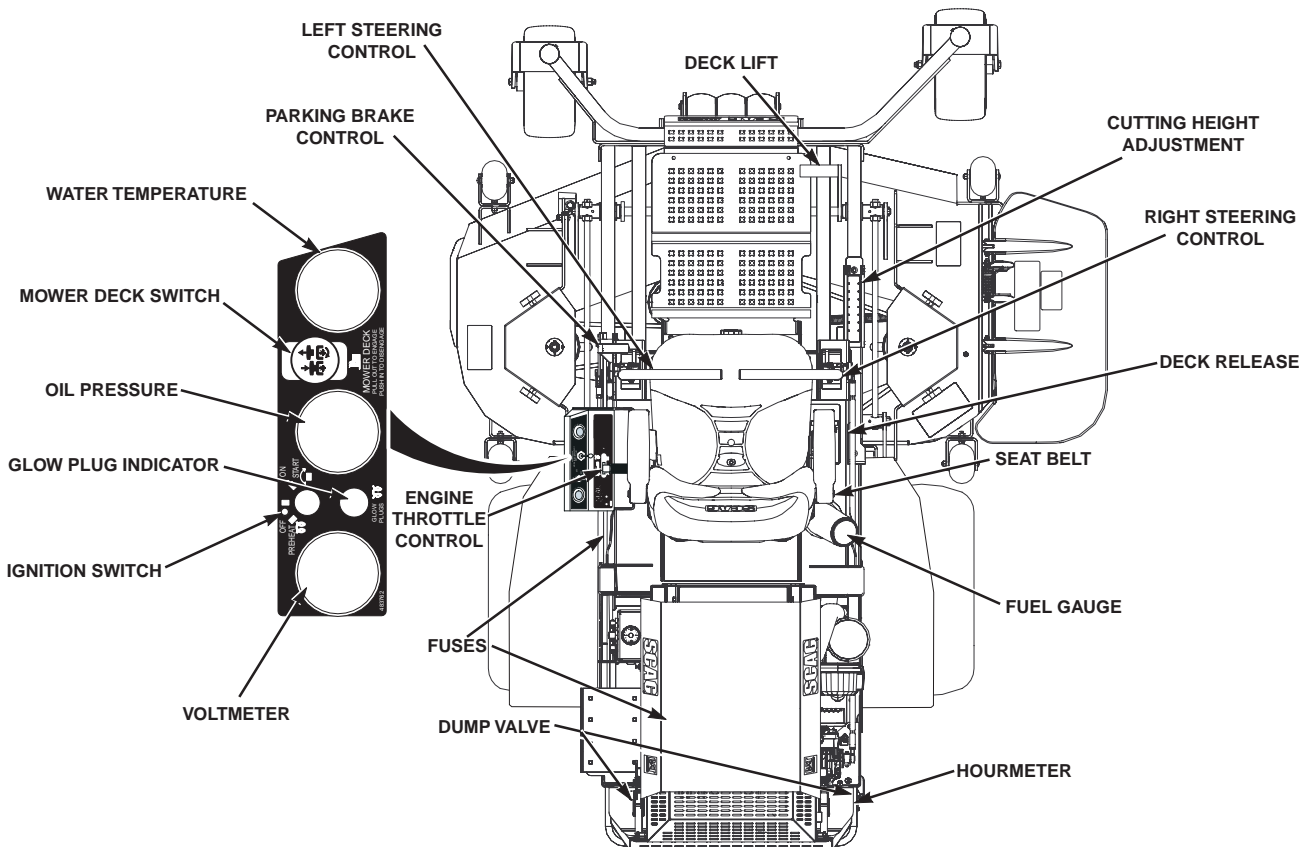

Figure 4-1. Controls and Instruments
1. **Ignition Switch (Figure 4-1).** The ignition switch is used to start the engine and has four positions; PREHEAT, OFF, ON, and START.
2. **Mower Deck Switch (Figure 4-1).** Used to engage and disengage the mower drive system. Pulling up on the switch will engage the deck drive. Pushing down on the switch will disengage the deck drive.
3. **Glow Plug Indicator (Figure 4-1).** Yellow indicator turns on when the key switch is turned to the PREHEAT position. Glow plugs must be preheated for 5 to 10 seconds before starting the engine.
4. **Engine Throttle Control (Figure 4-1).** Used to control the engine speed. Pushing the lever forward increases engine speed. Pulling the lever back decreases engine speed. Full back position is the IDLE position. Full forward is the cutting position.
5. **Voltmeter (Figure 4-1).** Indicates the condition of the charging system. When the engine is running, in normal operating conditions, the needle should be in the 12 to 14 volt range.
6. **Oil Pressure (Figure 4-1).** Indicates engine oil pressure. Reference the engine operator's manual for further information.
7. **Hour meter (Figure 4-1).** Indicates the number of hours the engine has been operated. It operates whenever the engine is running. Has preset maintenance reminders for engine and hydraulic system oil changes. Will start flashing scheduled maintenance 2 hours before preset time and continue flashing until 2 hours after. Automatically resets.
8. **Fuse Holders (Figure 4-1).** There are one 20-amp fuse and one 50-amp resettable fuse that protect the mower's electrical system. To replace fuse, pull fuse out of the socket and install a new fuse.
9. **Left Steering Control (Figure 4-1).** Used to control the mower's left wheel when traveling forward or reverse.
10. **Right Steering Control (Figure 4-1).** Used to control the mower's right wheel when traveling forward or reverse.
11. **Parking Brake Control (Figure 4-1).** Used to engage and disengage the parking brakes. Pull the lever back to engage the parking brakes. Push the lever forward to disengage the parking brakes.
12. **Fuel Tank Gauge (Figure 4-1).** Indicates the amount of fuel in the fuel tank.
14. **Deck Lift Foot Lever (Figure 4-1).** Used to raise and lower the cutter deck.
15. **Cutting Height Adjustment (Figure 4-1).** Used to set the cutter deck at the desired cutting height.
16. **Deck Release Lever (Figure 4-1).** Used to lock the cutter deck in the transport position. Push the foot pedal forward and lift up on the release lever to release the cutter deck for normal mowing.
17. **Temperature Gauge (Figure 4-1).** Indicates the operating temperature of the engine.
18. **Seat Belt (Figure 4-1).** Used to secure the operator. Seat belt must be worn at all times when the ROPS is in the upright and locked position.